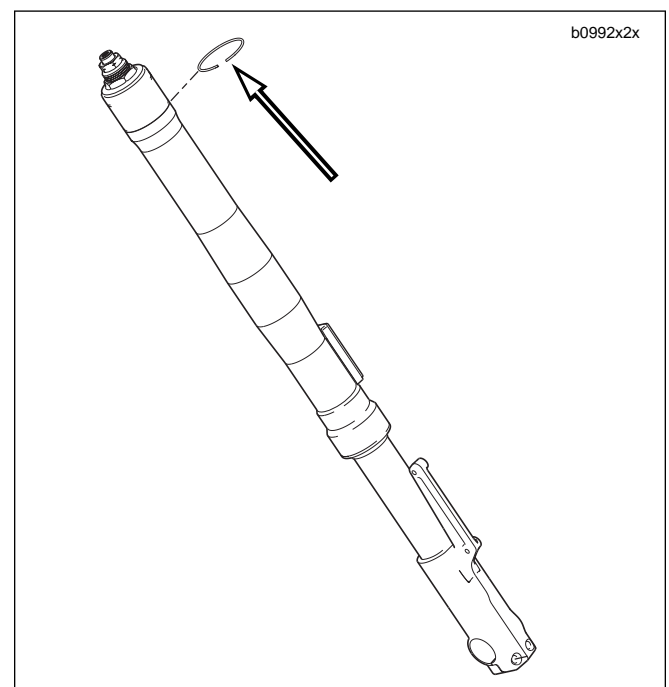

Figure 2-66. Stopper Ring
5. See Figure 2-66. Remove fork from upper fork clamp and slide the stopper ring up and over the top of the fork.